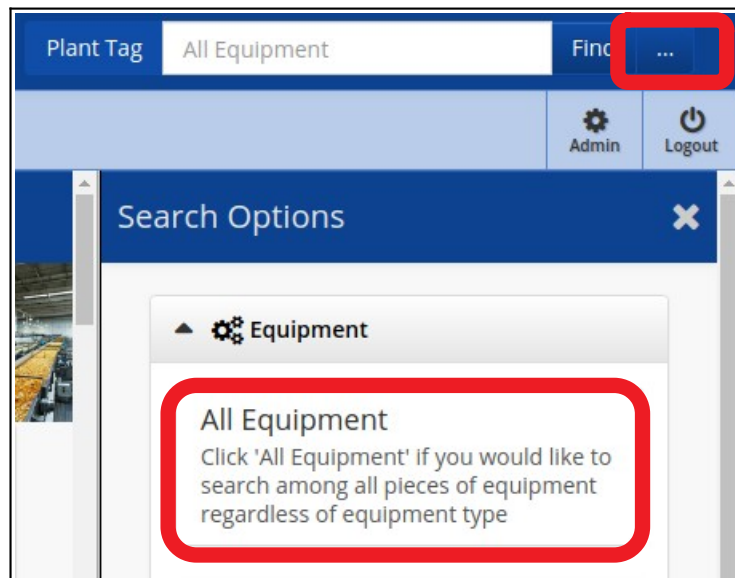

Figure 1
- Choose All Equipment search by equipment name/number (Fig. 1).